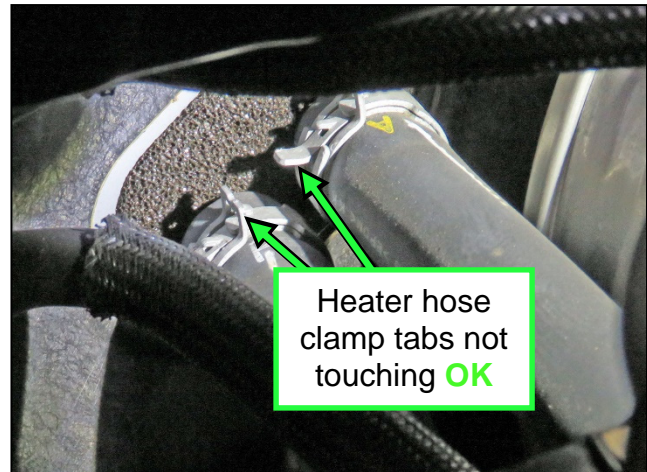

Figure 1
2. Inspect the orientation of the heater hose clamps (Figure 1 and Figure 2).